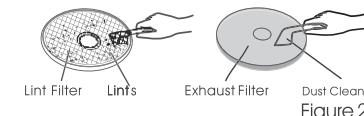

Figure 2
Separate "exhaust vent shroud", "lint filter" and "exhaust filter". Clean the lint on the lint filter and exhaust filter with a soft brush or vacuum cleaner. Do not damage the filters (as shown in figure 2)
- To install the hanging hook to timber, start at Fig 2.